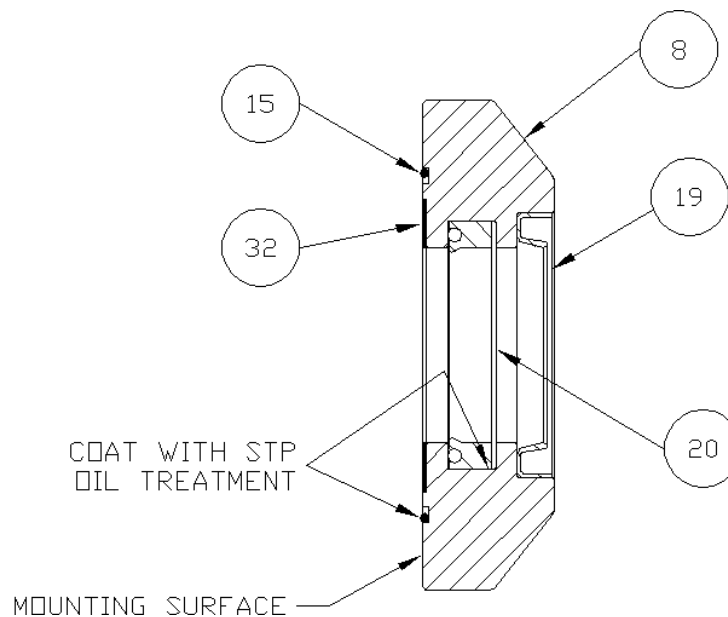

figure A-11
16. Thoroughly clean the bearing caps (8) (fig. A-11) with a mild solvent and lubricate all seal grooves with STP oil treatment. Place the bearing caps (8) on the table (mounting surface down) and install the wiper ring (19) in the outside groove using a rubber mallet or small press. *(Avoid using tools that may damage seals or scratch bearing cap or bearing surfaces.)* Turn the bearing cap (8) over. Collapse the pinion seal (20) and carefully work it into the groove. Use fingers to carefully press the seal completely into the groove as shown in figure A-11. *Be careful not to score or scratch the sealing surface during the installation.* Install the bearing cap seal (15) and thrust washer (32) into their respective grooves on the bearing cap mounting surface as shown in figure A-11.
17. Coat the bearing cap seal area and pinion seal area shown in figure A-11 lightly with STP Oil Treatment.